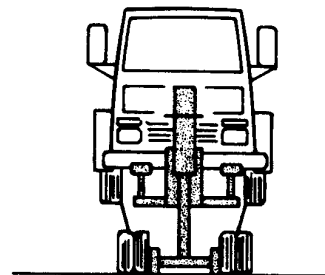

Figure 2
- Center the lift under the load. See Figure 2.